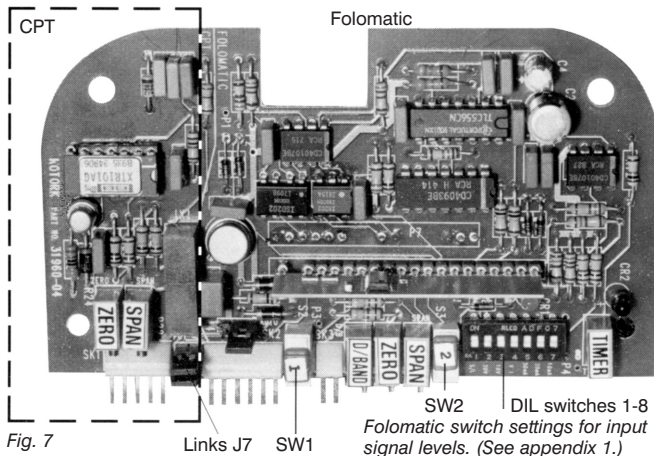

Fig. 7
- a Using Fig 7 locate the dual links J7. For a clock to close valve and low signal at closed and For an anti-clock to close valve and low signal at open. Links J7 must be positioned parallel to the edge of the board.
Using Fig 7 locate switches 1 and 2, select as follows:
2 Determine what control input signal is going to be used, refer to Fig. 7 and locate the block of DIL switches and select range required.
3 When using a 4-20mA control loop signal it is possible to select whether the actuator will "stay put" or fail to the 4mA end of travel on loss of signal. Switch No 1 on folomatic DIL switches to be selected 'on'. Switches P1 and P2 on **Main Board DIL Switches** (Fig. 7). Both selected 'on' gives fail to the close end of travel. Both selected 'off' gives fail to the open end of travel. One switch 'off' and one 'on' will give 'stay put'.